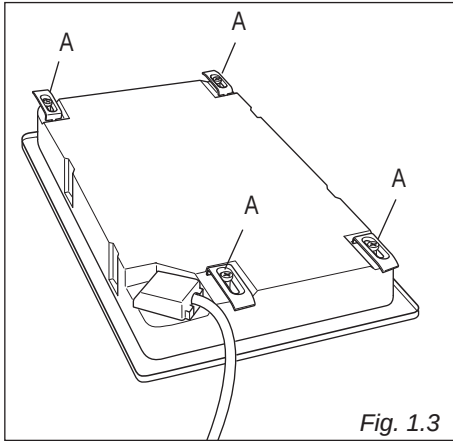
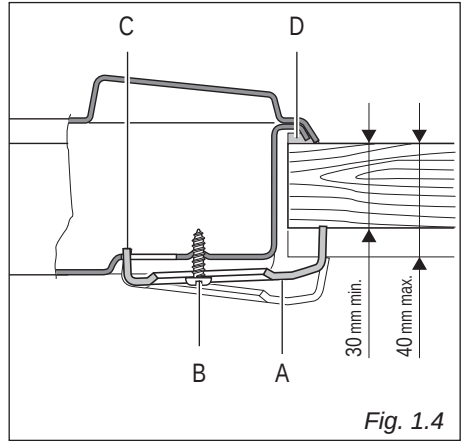

Fig. 1.3
Fig. 1.4
Each cooker top is provided with an installation kit including brackets and screws for fastening the top to fixture panels from 30 to 40 mm thick, figs. 1.3, 1.4.
- Turn the cooktop over and put tabs "A" (fig. 1.3) into the mountings, only tighten screws "B" a few turns. Make sure that the tabs are mounted correctly as shown in the figure 1.4. Turn the tabs so that the cooktop can be put into the hole.